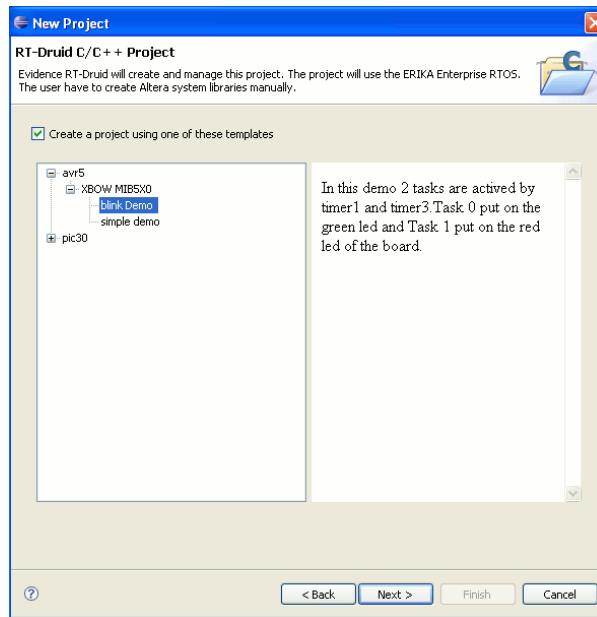

Figure 4.2: Select a template for your project.
2. A Dialog box appear. Please select a template for the new project, as in Figure 4.2.